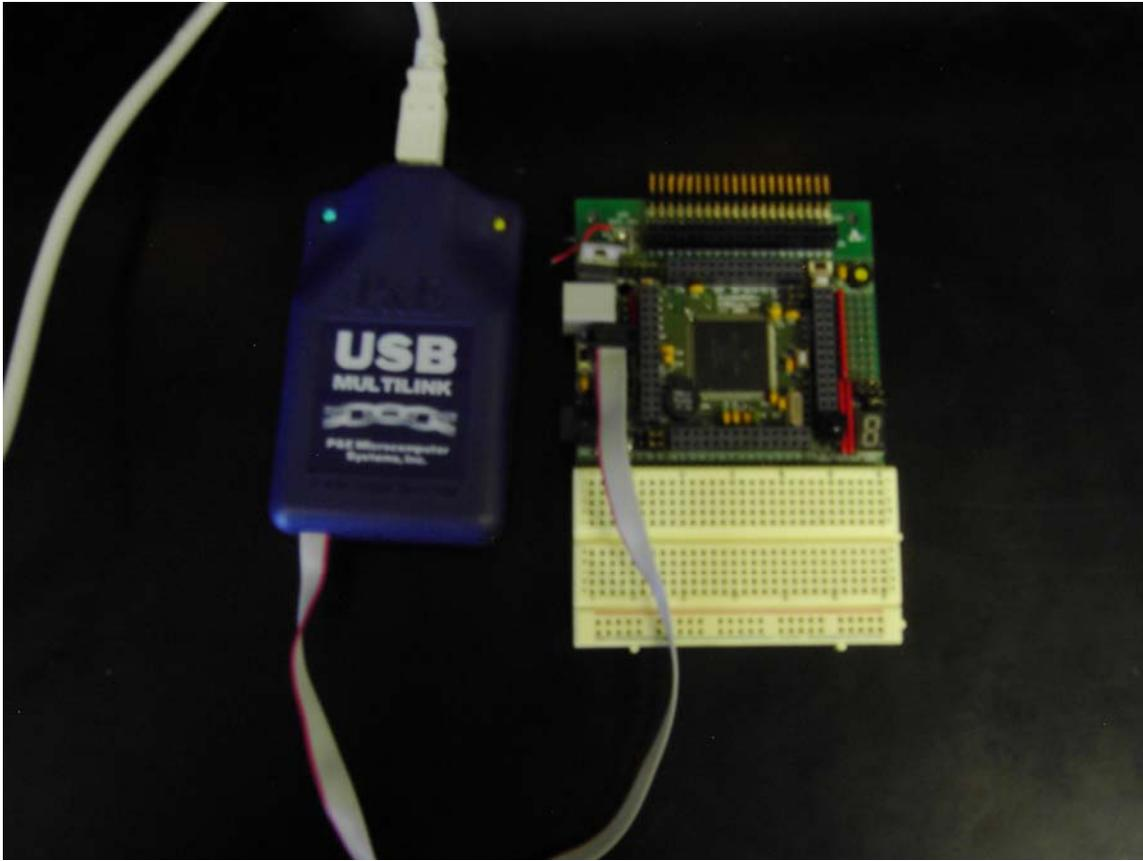

Figure 2. Pod connection to Minidragon+
- 2) Connect the programming pod to the Minidragon+ as shown in Figure 2, with the red line toward the reset button.